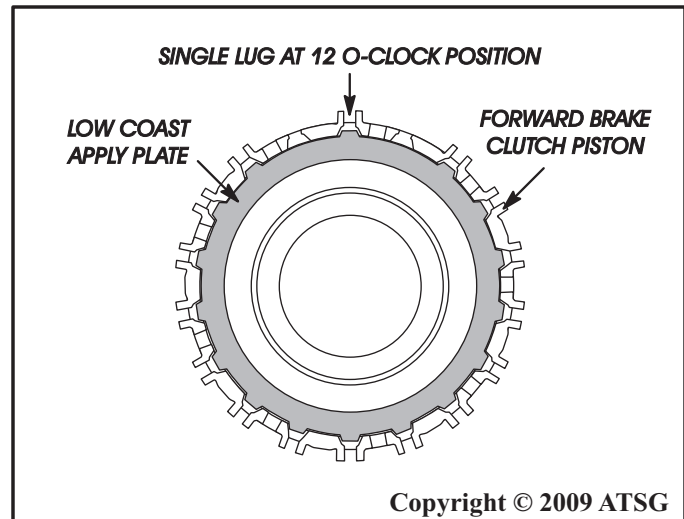

Figure 186
2. Check once again that the forward clutch piston is in the case properly, with the single lug at the 12-O'clock position, as shown in Figure 186.
**Note:** *Ensure that the single lug on the apply plate is at the 12-O'clock position, as shown in Figure 186.*